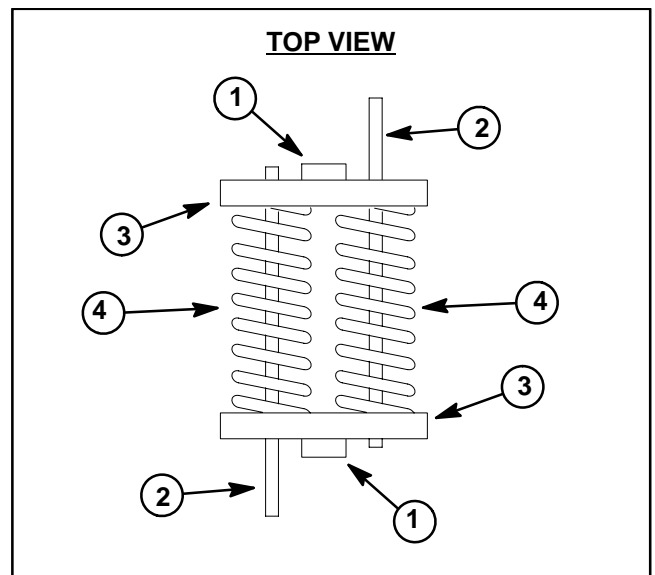

Figure 22
5. Install a compression spring tool rod (see Special Tools) through holes in each spring cradle (item 1), then install nuts and washers on both ends of each rod. Tighten one nut on each rod to secure compression springs.
**NOTE:** Extended portion of each compression spring tool must be on opposite ends so cap screws that secure spring cradles to control arm towers can be removed (Fig. 22).